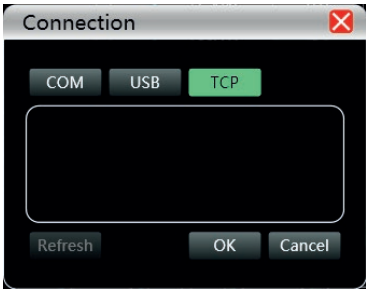

Figure 2.8 Port Connection Interface
1. Click “Setting” to open the port connection interface (Figure 2.8).